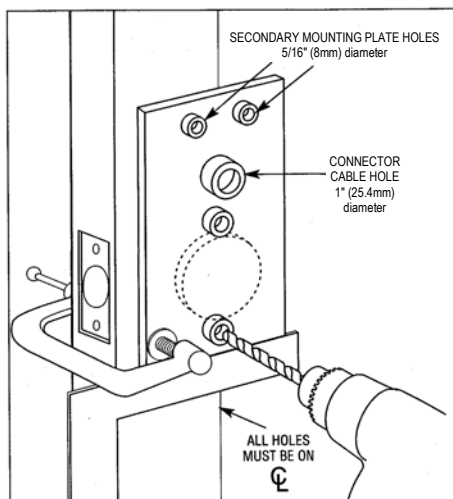

FIG. 2: ALARM LOCK INSTALLATION JIG
2. For best results, align the Installation Jig to door with a square and clamp to door before drilling. See Fig. 2.